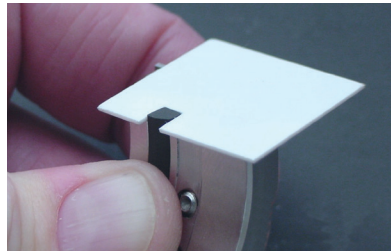

Figure 8
- 3.3 Check the gasket extension with the 0.030 inch (0.76 mm) thick "Proud" gauge. See Figure 8.